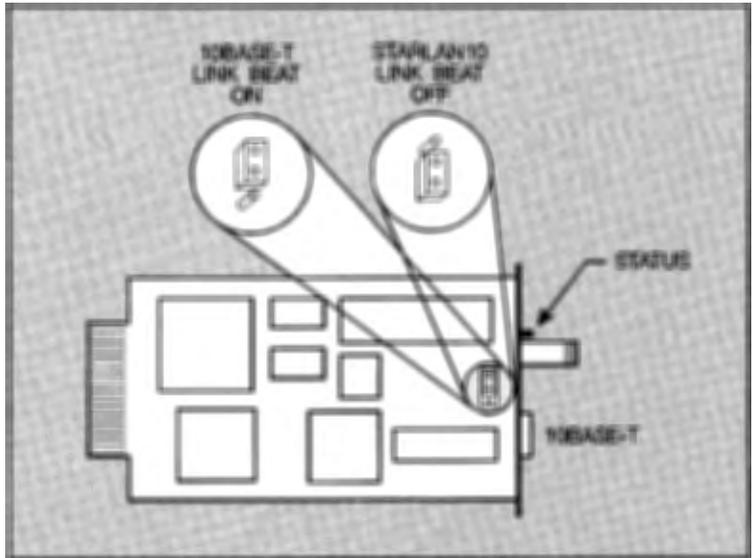

Figure 3-10. Configuring the 10BASE-T Adapter Card
- If the card will connect to a Type 10BASE-T network device, enable Link Beat as shown in Figure 3-10. (This is the factory default configuration.)
- If the card will connect to a non-Type 10BASE-T network device, such as an HP StarLAN10 device, disable Link Beat as shown in Figure 3-10.